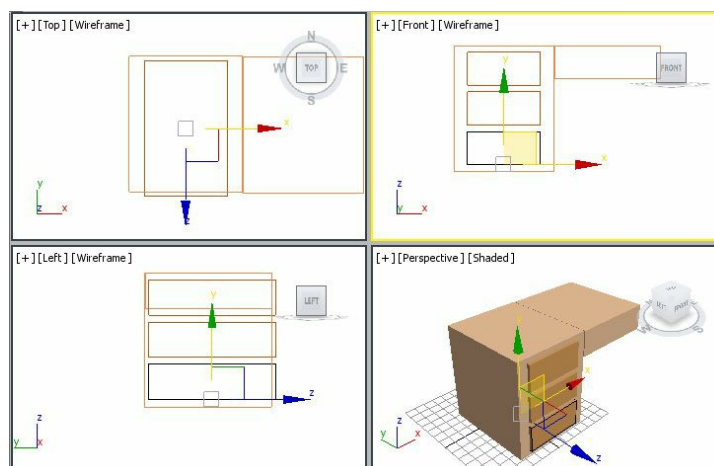

Figure 2-52 The *drawer002* and *drawer003* geometry created after cloning *drawer001*
2. Make sure the **Copy** radio button is selected in the **Object** area of the **Clone Options** dialog box. In the **Number of Copies** spinner, enter **2** to create two copies of *drawer001*. Next, choose the **OK** button; two drawers with same dimensions are created, as shown in Figure 2-52.